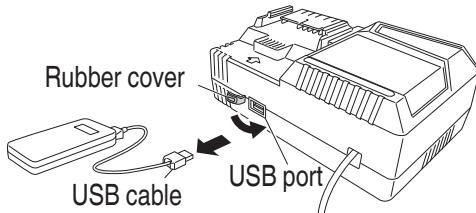

Fig. 16
- (3) When charging is completed
- Unplug the power cord from the electrical outlet. (**Fig. 16**)